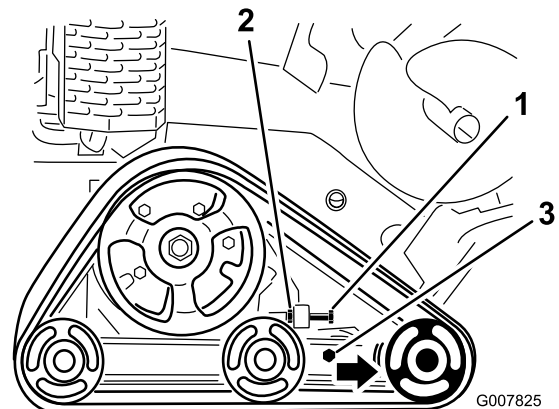

Figure 47
3. Loosen the jam nut on the track tensioning bolt and the clamp bolts on the tension arm (Figure 47).
4. Torque the tensioning bolt to 24 to 30 ft-lb (32.5 to 40 N-m) to tighten the track (Figure 47).
4. Back out the tensioning bolt and jam nut (Figure 47).
5. Loosen the clamp bolts (Figure 47).